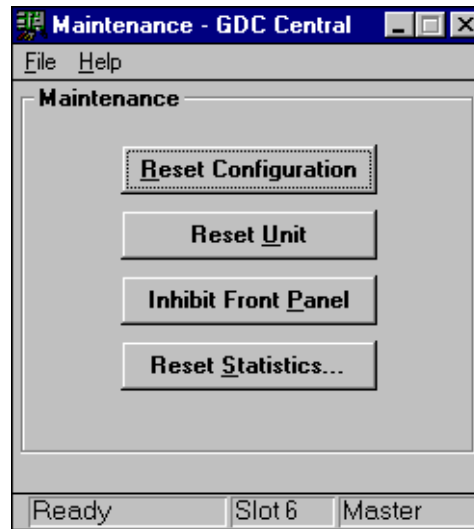
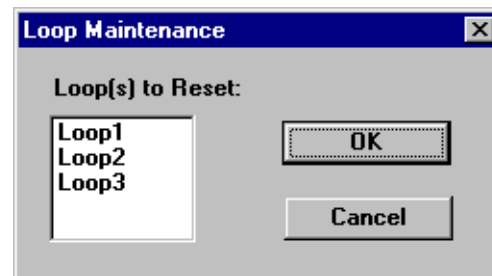

Figure 6-1 Maintenance Window for Units DC610, SC611, SC613, DC612, SC616, and DC621
Figure 6-2 Loop Maintenance Window for Unit 613
6. This opens the Maintenance window for the unit. *Figure 6-1* pertains to the Units 610, 611, 612, 616, and 621; and *Figures 6-2* and *6-3* pertain to Unit 613.